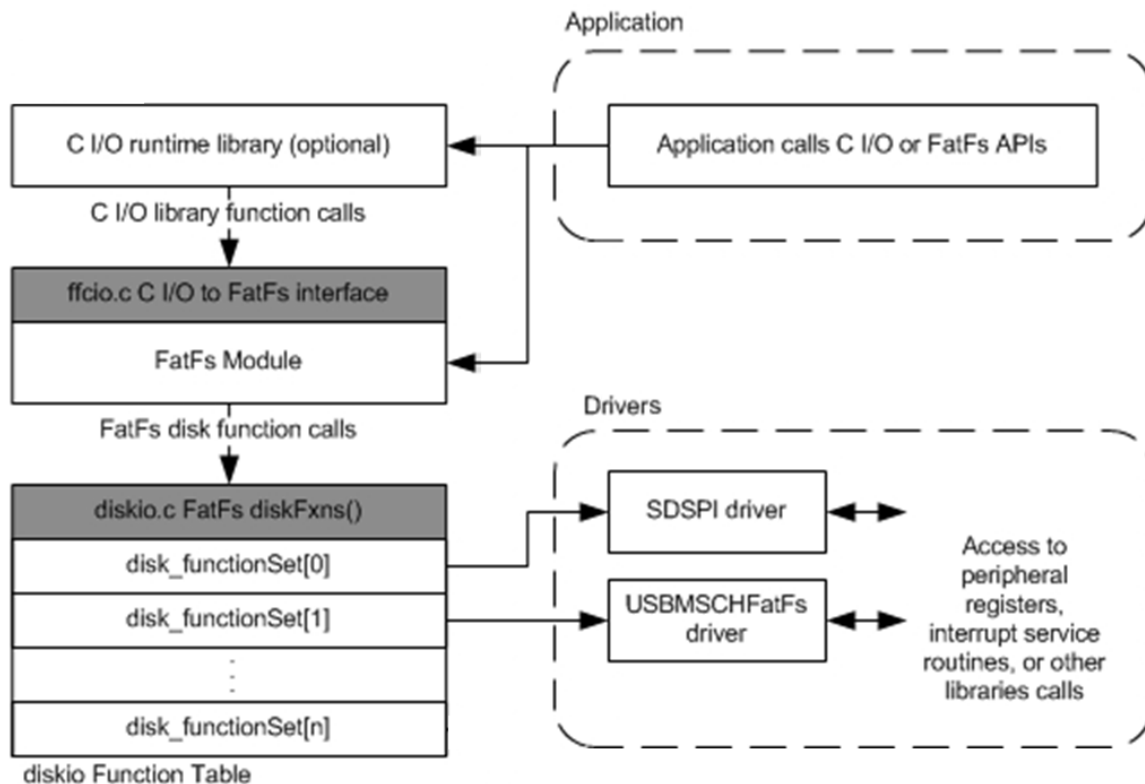

Figure 7-1 FatFs data flow
- **FatFs drivers.** The last layer in Figure 7-1 is the FatFs drivers. TI-RTOS comes with pre-built FatFs drivers that plug into the FatFS module. A FatFs driver has no knowledge of the internal workings of FatFs. Its only task is to perform disk-specific operations such as initialization, reading, and writing. The FatFs driver performs read and write operations in data block units called sectors (commonly 512 bytes). Details about writing data to the device are left to the particular FatFs driver, which typically accesses a peripheral's hardware registers or uses a driver library.